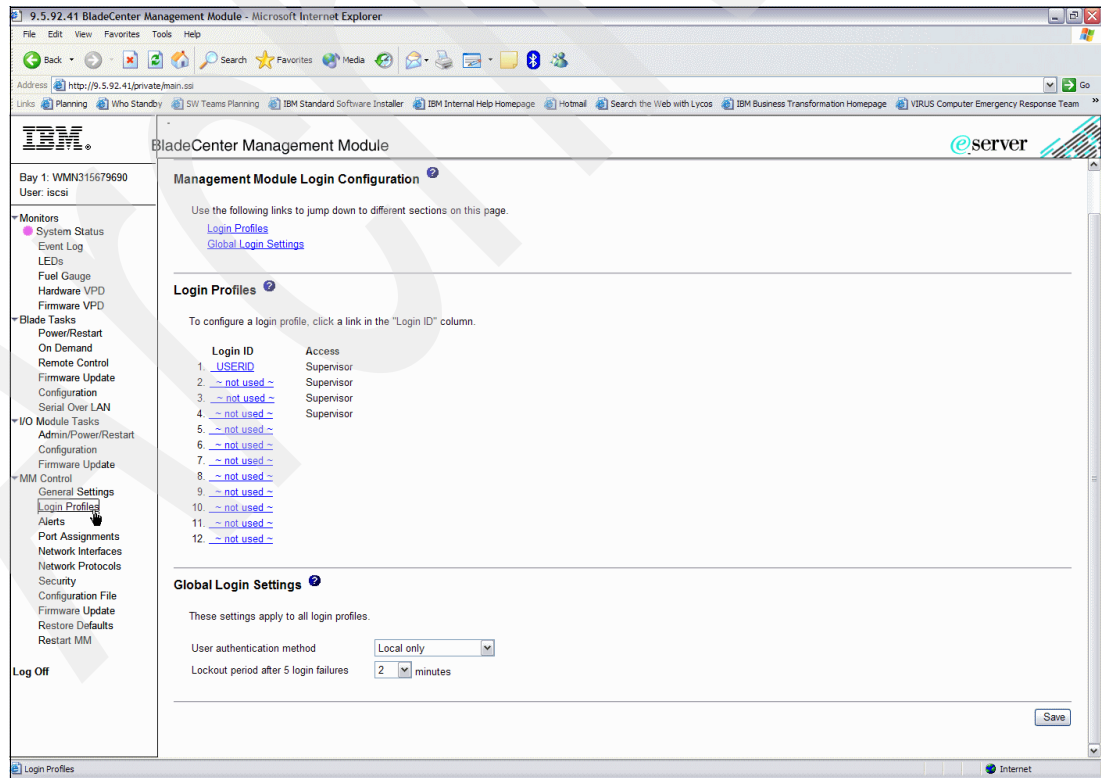

Figure 5-47 Login Profiles on MM
5. Select **Login Profiles** under **MM Control** in the navigation pane on the left side of the window. The Login Profiles defined in the MM are shown in Figure 5-47. Click the default user **USERID**.